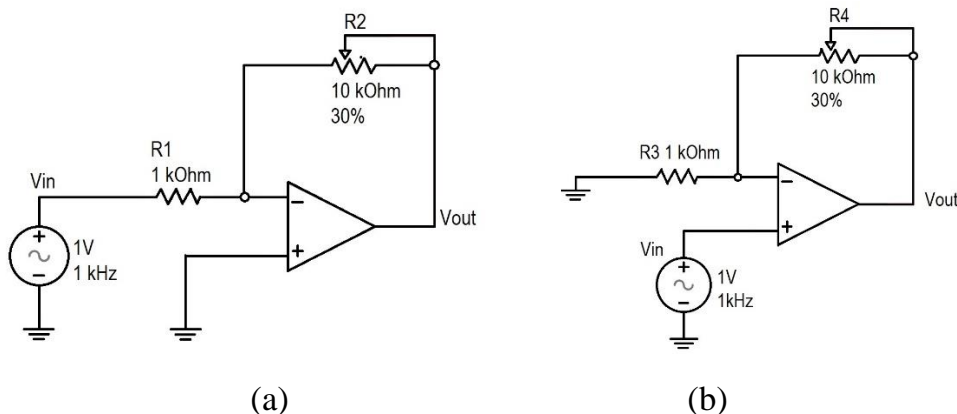

Figure 2. Circuit diagram of (a) inverting amplifier and (b) non-inverting amplifier.
Exercise 2. Build up and analyze the working principle of the inverting and non-inverting operational amplifiers shown in Figure 2. Regarding the polarity of an op-amp, set $V^+ = 10\text{ V}$ and $V^- = -10\text{ V}$.
- Implement the circuits in Figure 2.